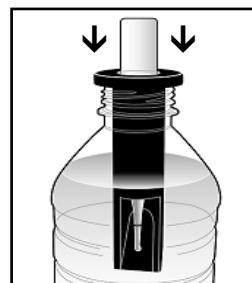

Figure 3
1. Place the Vacu-vial ampoule, tip first, into the snapper. Open the container of water to be tested and place the snapper with ampoule into the container using care not to prematurely snap the tip of the ampoule (fig. 3).